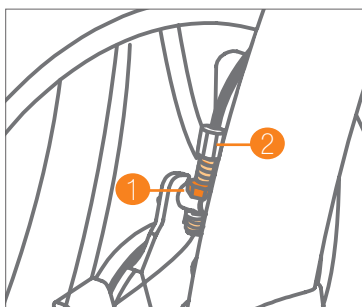

**Figure 77: Brake adjustment via the adjustment screw, just below the locking ring.**
- First loosen the locking ring (pull the cable down to make it easier). This gives you room to adjust the screw below it (**Figure 77**).